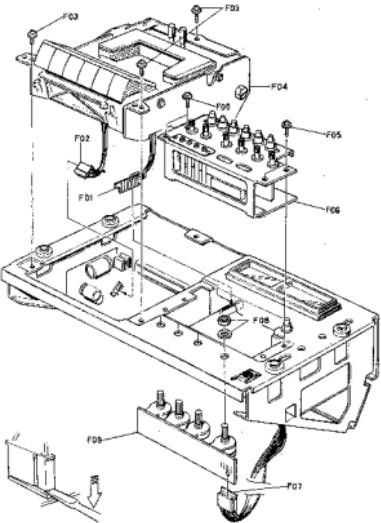

Fig. 3.3
Refer to Fig. 3.3. Remove front panel ass'y referring to above items 3.1 through 3.5. Remove F01 through F03 and F04 (mechanism ass'y).
Refer to Fig. 3.3. Remove front panel ass'y referring to item 3.5. Remove F05 and F06 (front control ass'y).
Refer to Fig. 3.3. Remove front panel ass'y referring to item 3.5. Remove F07 through F09 (volume P.C.B. ass'y).